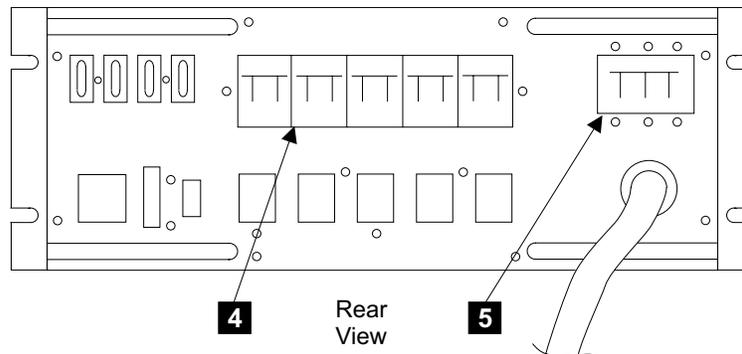

Figure 232. Primary Power Supply Circuit Breaker Locations (S007627I)
- ___ 4. Ensure that the five circuit breakers (CB01 to CB05) on each primary power supply **4** [Figure 232] are set to On (up).
- ___ 5. The main circuit breakers **5** [Figure 232] on each primary power supply should be set to Off (down).